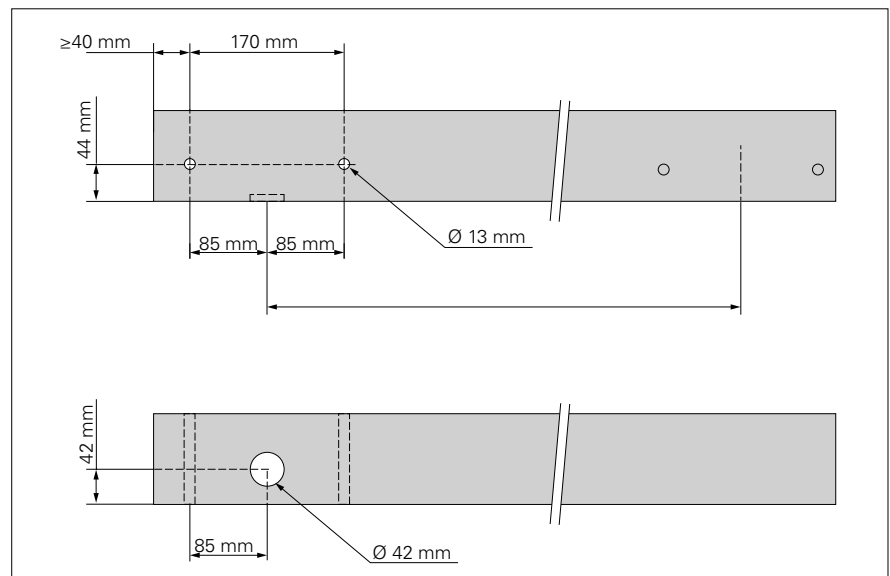

Fig. C1.04c
2. Pre-drill timbers for the screw heads (**109.1**) using a Forstner drill \varnothing 42. Drilling pattern: see Fig. C1.04c.